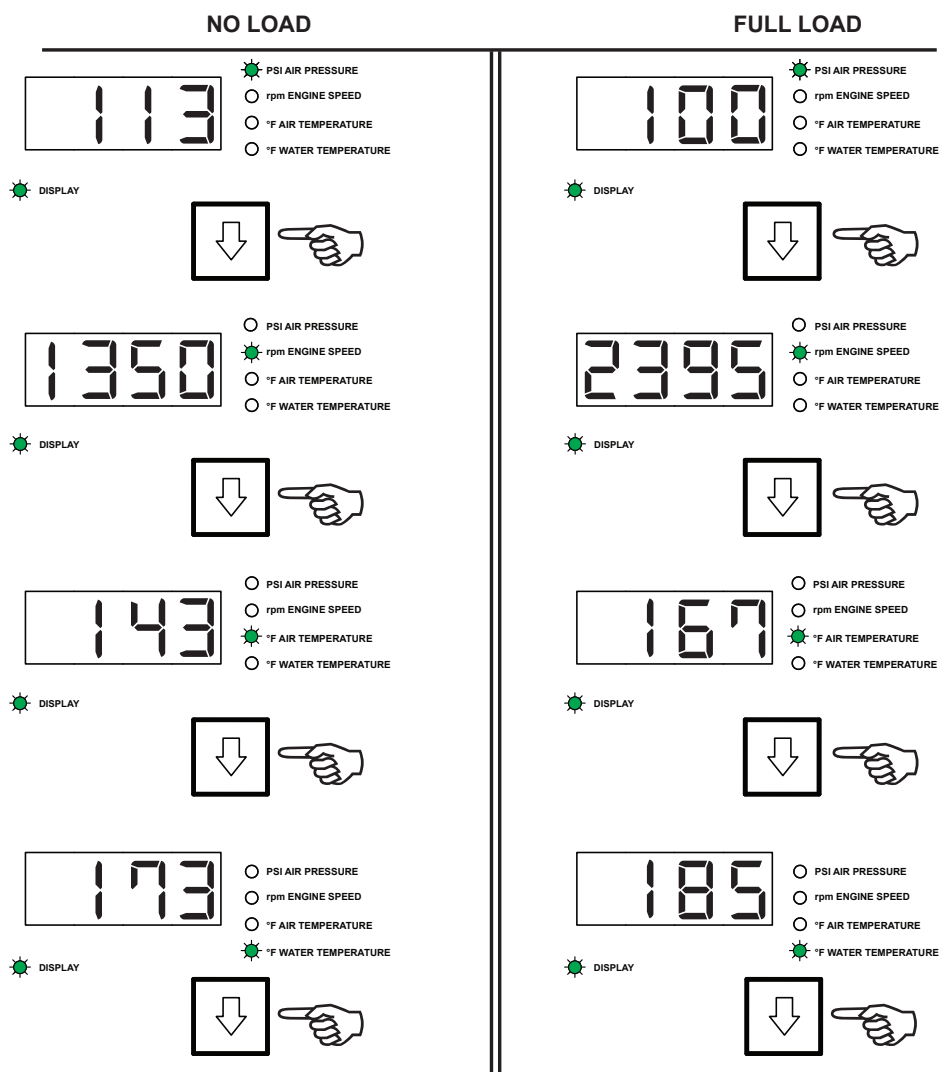

Figure 26. Engine Operating Parameters
- Press the down arrow button (↓) to cycle through the various compressor/engine operating parameters while the unit is running for **no load** and **full load** conditions (Figure 26).